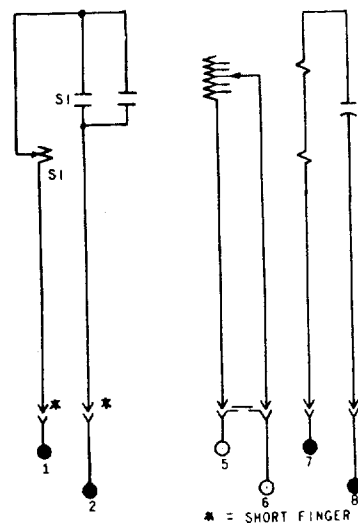
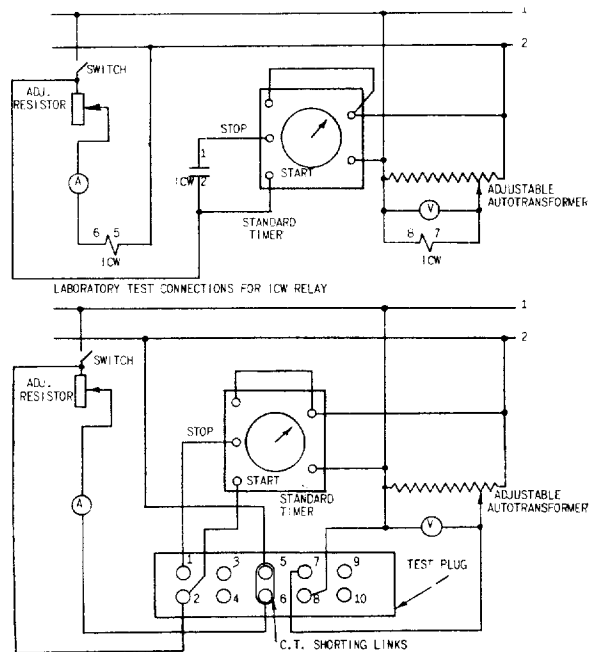
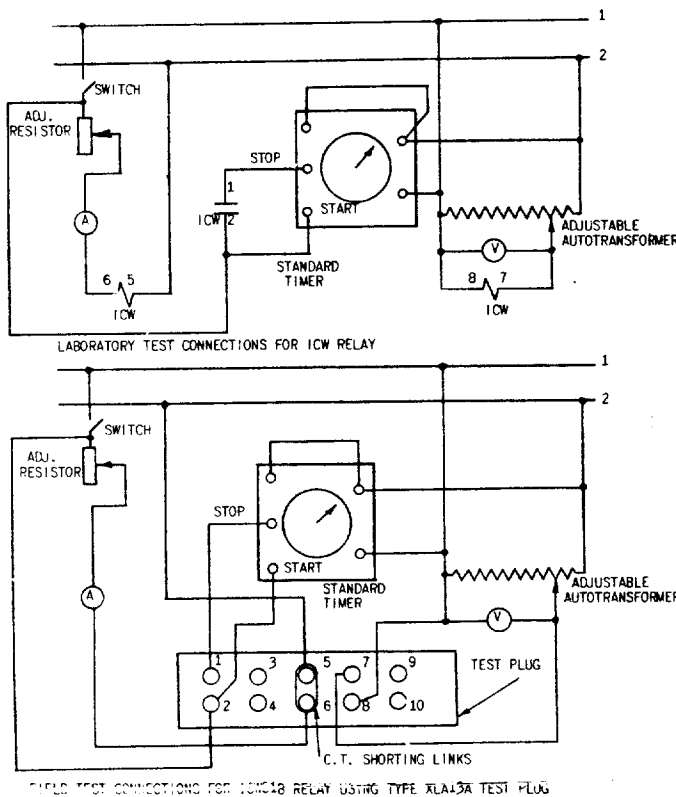
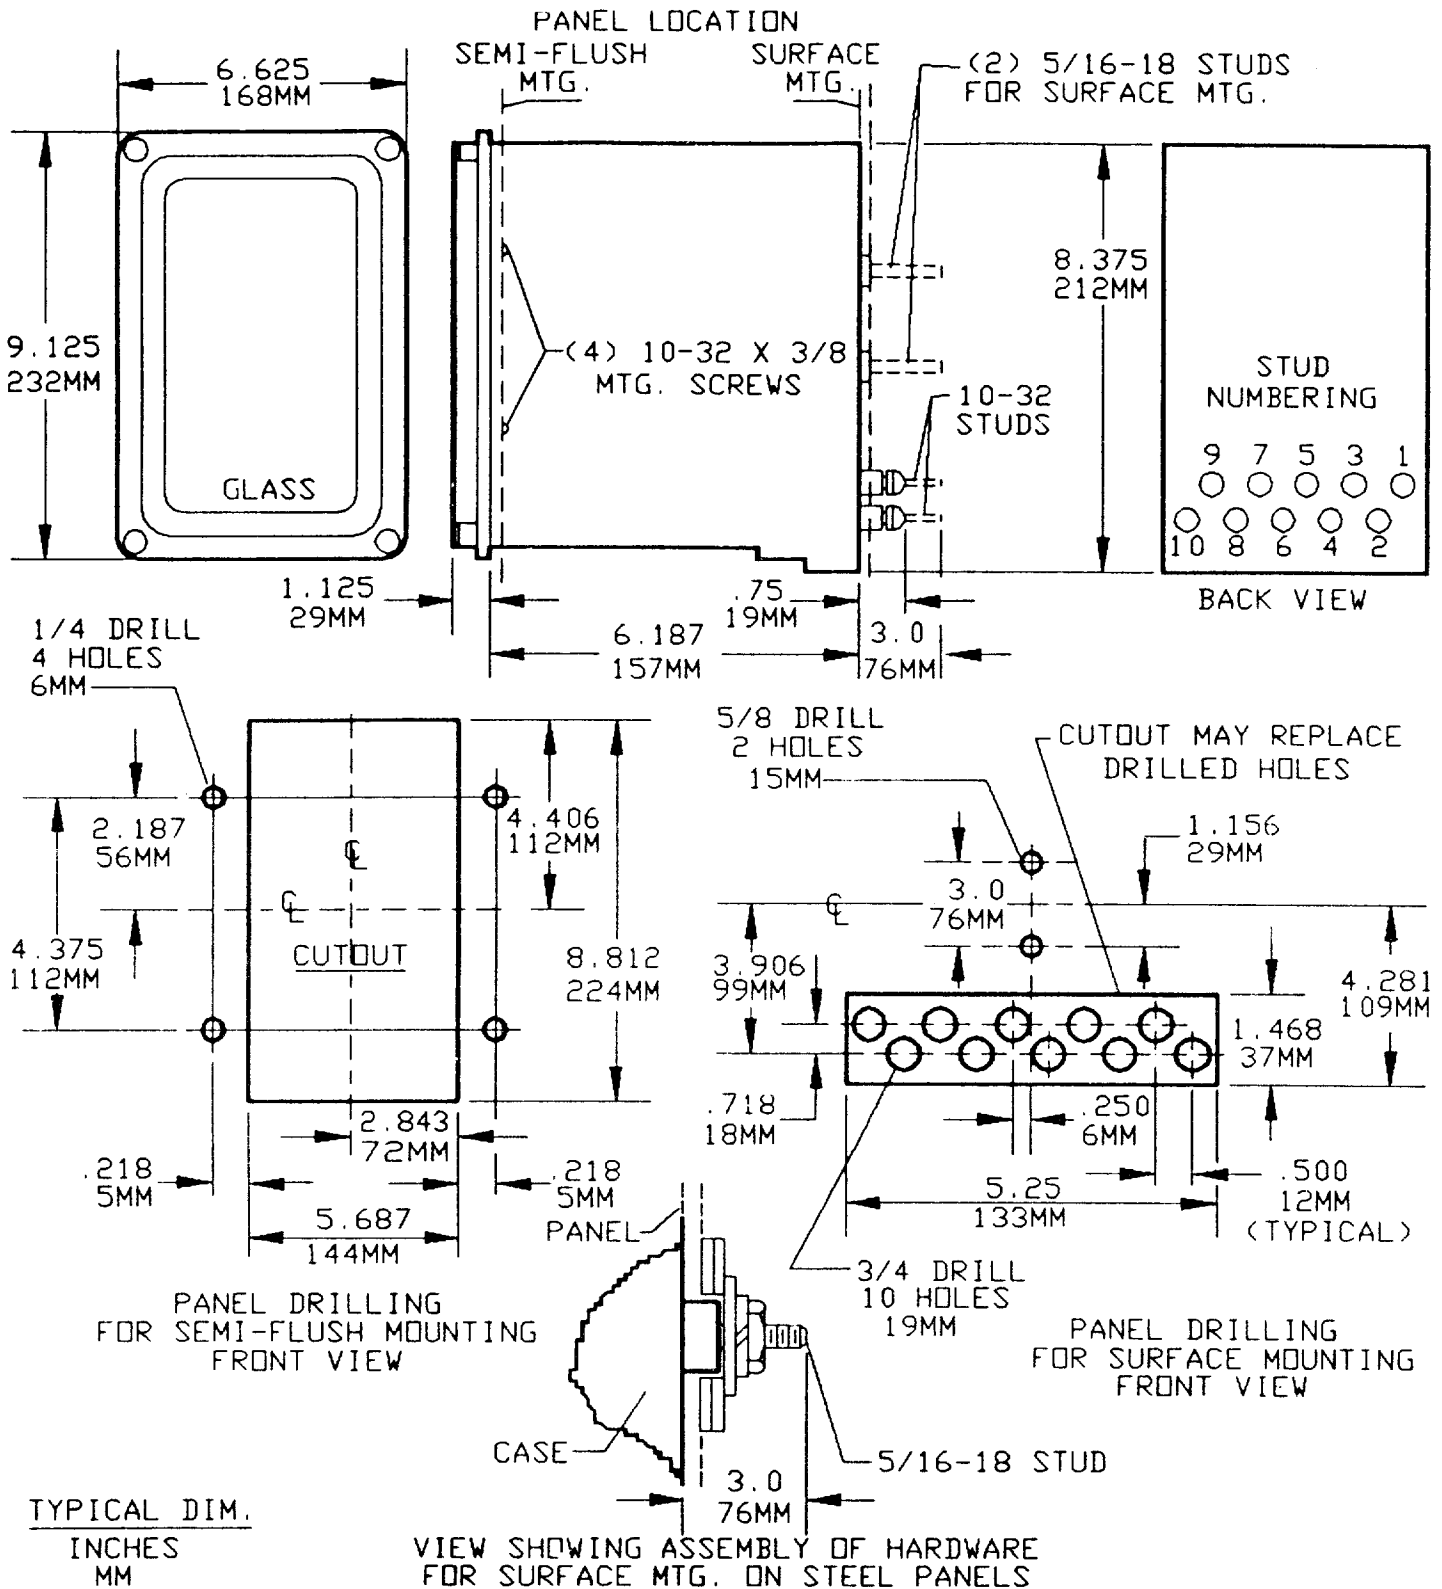

Fig. 2 Internal Connections (Front View) of ICW51B Relay (362A631-2)
Fig. 4 Field Test Connections (0165A7511-0)
Fig. 7 Laboratory Test Connections (0165A7511-0)
Fig. 9 Outline and Panel Drilling Dimensions for Type ICW Relays (6209271 [8])
Internal connections for the ICW51B are shown in Fig. 2.
front of the relay case, contains the target reset mechanism and an interlock arm which prevents the cover from being replaced until the connection plug has been inserted. The relay case is suitable for either semi-flush or surface mounting on all panels up to 2 inches thick and appropriate hardware is available. However panel thickness must be indicated on the relay order to insure that proper hardware will be included. For outline and drilling dimensions, see Fig. 9.
Every circuit in the drawout case has an auxiliary brush as shown in Fig. 3 to provide adequate overlap when the connecting plug is withdrawn or inserted. Some circuits are equipped with shorting bars (see Fig. 2) and on these circuits it is especially important that the auxiliary brush makes contact as indicated in Fig. 3 with adequate pressure to prevent the opening of C.T. secondary circuits or important interlock circuits.
Check that the shorting bars are in the correct locations as indicated in Fig. 2 and that the auxiliary brushes are properly adjusted.
**1. Pickup** - Connect the polarizing and operating coil circuits of the relay as shown in Fig. 7. With rated voltage applied to the potential circuit, and the tap screw in the minimum tap position, the current required to just close the left hand contact should be within  $\pm 5$  percent of the value obtained from the following equation:
**2. Pickup Time** - Using the test connections of Fig. 7, check operating time from the No. 5 time dial setting with the tap screw in the minimum tap position. Note that the two clamping screws must be loosened before the time dial can be turned. With an operating current of five times the pickup current, determined in equation (1) above, and rated voltage on studs 7 and 8, the pickup time should be
**1. Pickup** - Wattmetric unit pickup in terms of single phase watts can be set by inserting the tap screw in the desired position. If the pickup adjustment is being made on a relay already in service, be sure to remove the relay connection plug before changing the tap screw position. The tap screw must be securely tightened if its position has been changed. The actual pickup then should be checked using the test connections of Fig. 4, which shows test plug connections for testing the relay from the front of the panel.
**2. Time Setting** - The operating time at a given multiple of pickup watts is determined by the setting of the time dial. If the required operating time is known, the necessary time dial setting can be determined from the pickup time curves in Fig. 2 and the dial set at the required position. Note that before
the time dial setting can be changed, the two locking screws projecting through the shelf on the die-cast frame must be loosened. When thus adjusted the relay will have an operating time accuracy of  $\pm 8$  percent of the value shown in Fig. 2. It is suggested that after the time dial has been set in accordance with the pickup time curves, the actual operating time should be checked using the test connections in Fig. 4.
Connect the relay as shown in Fig. 4. Preheat the relay by applying rated voltage to the potential circuit for 15 minutes. If the relay was continuously energized prior to this test, the preheat time can of course be omitted. With rated voltage applied to the potential polarizing circuit check the pickup current. This should be within ± 3 percent of the corresponding reading recorded during **INSTALLATION**.
Using the connections of Fig. 4 make a spot check of the pickup time. This check should be made at three points on the time characteristic, say at 3, 5 and 10 times pickup. The recorded times should be within ± 3 percent of the times recorded for the same pickup multiples during **INSTALLATION**.
**1. Pickup Adjustment** - If it is necessary to readjust pickup or if a pickup point is desired which falls between tap positions, the following procedure is recommended. Connect the relay as shown in Fig. 7 if the test is being made in the laboratory, or as in Fig. 4 if the relay is being tested in position on the panel. Determine the pickup current corresponding to the desired tap setting or intermediate pickup watts from the following equation:
**4. Pickup Time** - If pickup time is found to be outside the limits mentioned in ACCEPTANCE TESTS and PERIODIC CHECKS it can be restored by changing the position of the drag magnet on its supporting shelf. Using the test diagram of Fig. 4,
Since the last edition, Figure 9 and the caption of Figure 2 have been changed